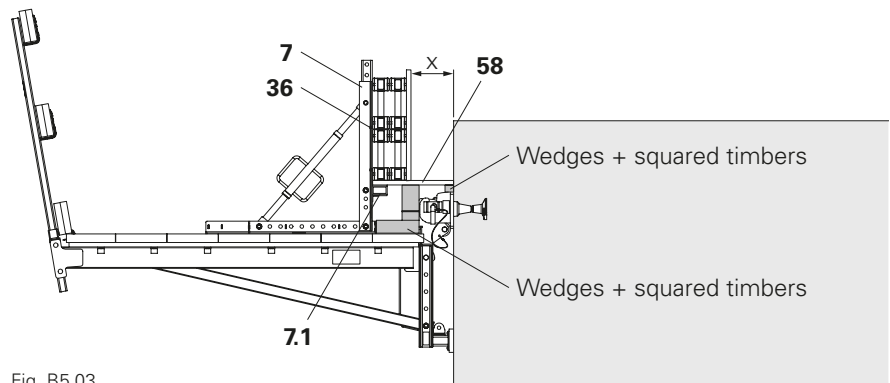

Fig. B5.03
2. Place the side formwork on the beam support (7.1) and slab formwork, and fix to Formwork Post VGK 70 (7) with wood screws (36). (Fig. B5.03)